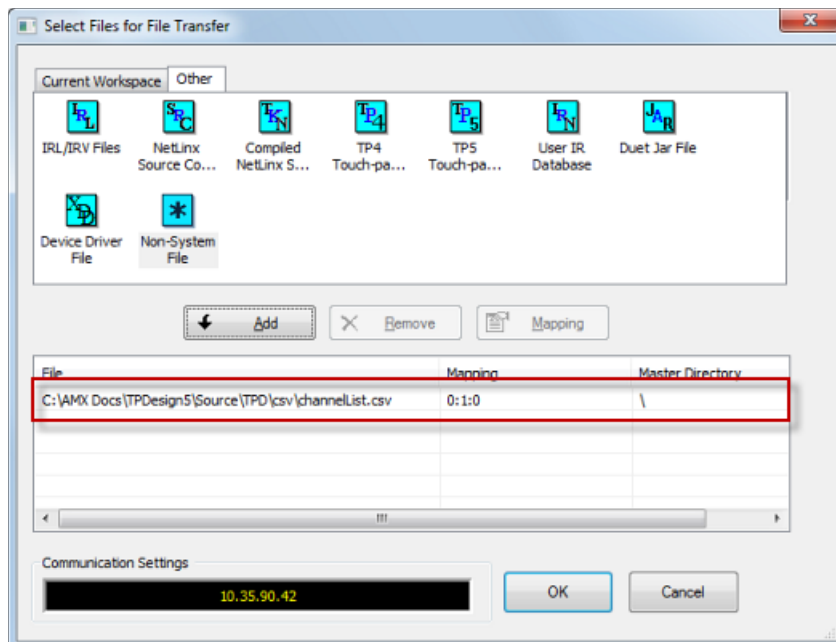

FIG. 124 NetLinX Studio 5 - Select Files for File Transfer dialog indicating a CSV file for transfer
9. In the *Select Files For File Transfer* dialog, the selected file and its device information are indicated in the *Files* list (FIG. 124):